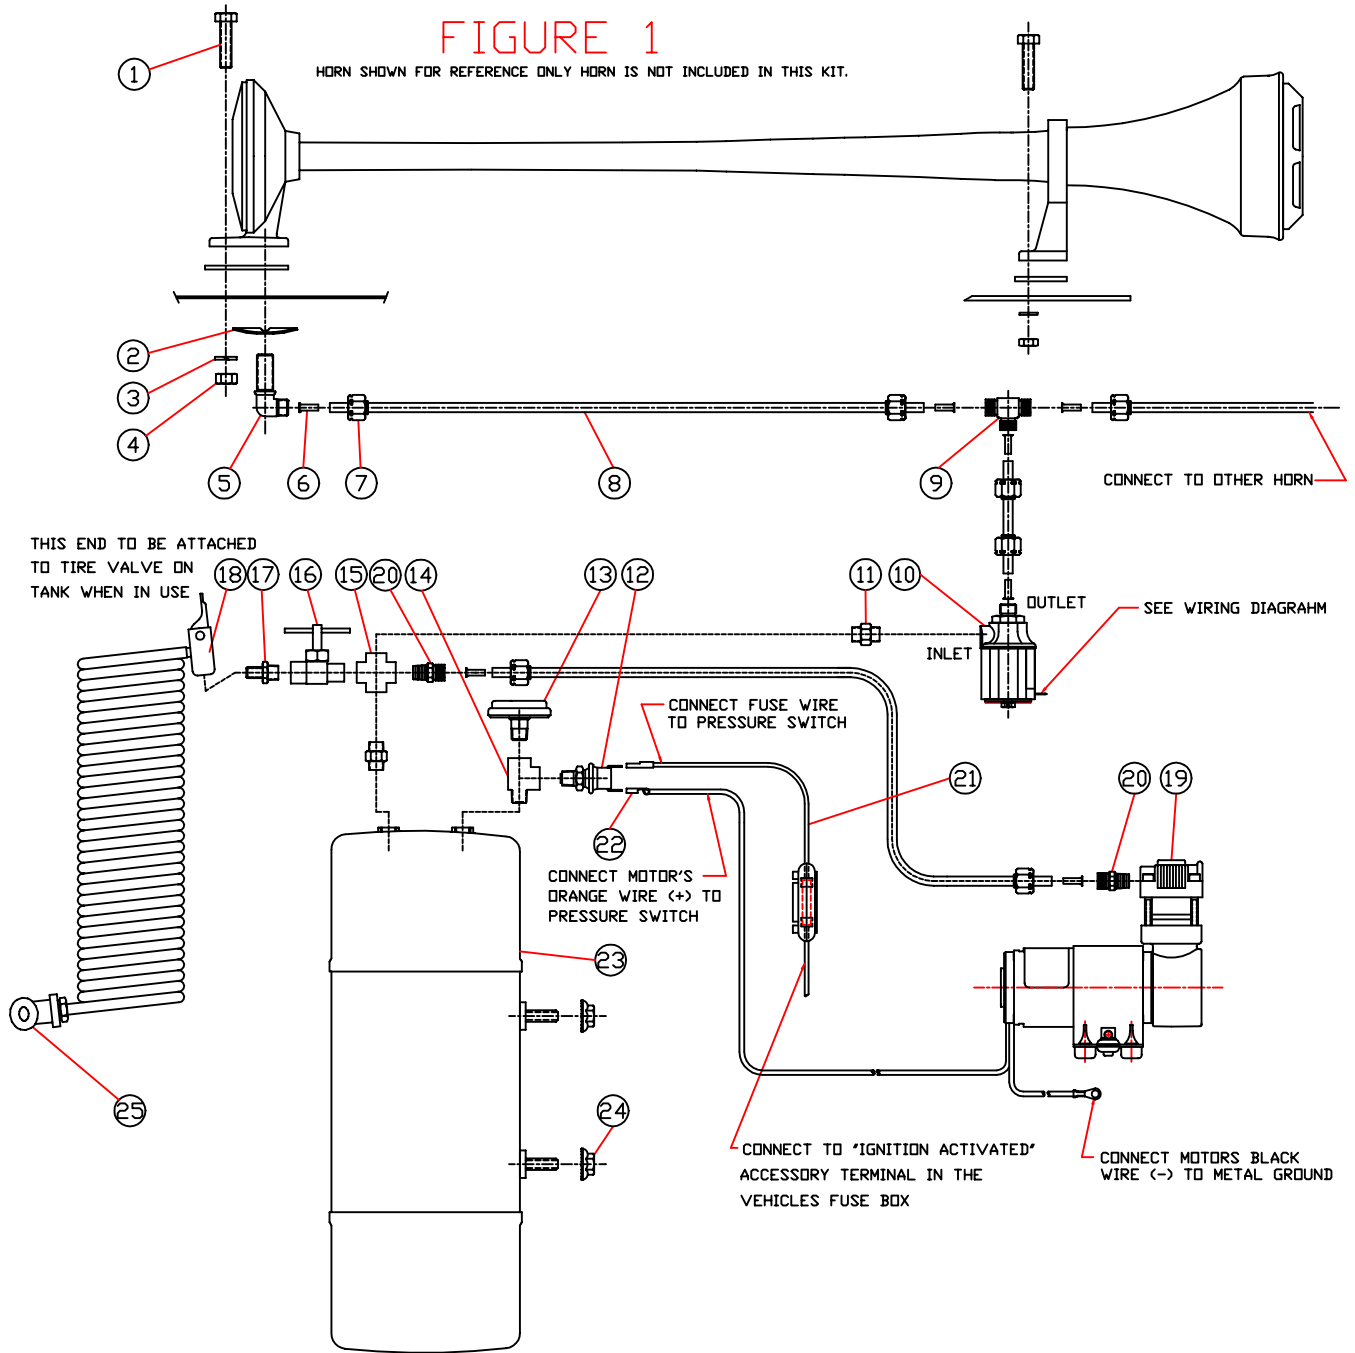

FIGURE 2 BRACKET ASSEMBLY
1. As shown in figure 2, slide the (2) grommets (item#28) into slots. Next push the (2) brass eyelets (item#27) into the grommets. Pull the (4) bumpers (item#30) through the (4) round holes on the bracket.
4. Mounting requires (2) holes spaced 2 3/16 in. apart, each having a diameter of 7/32 in.
5. To mount compressor, insert 10-32 bolt (item#26) through the brass eyelet and through the 7/32 in. hole. Secure with the 10-32 nut (item#29) as shown in figure 2. **Do not overtighten mounting bolts.**